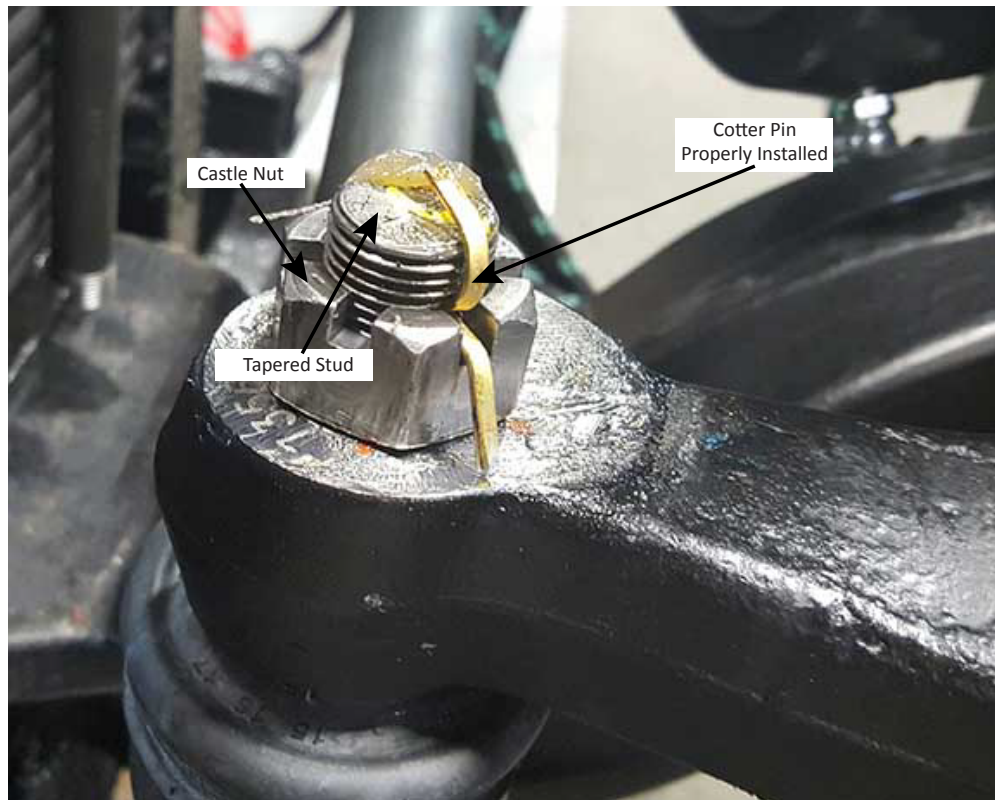

Figure 6
3. Un-screw the castle nut by rotating it counter-clockwise until the castle nut turns freely. Using hand force only, check for any movement of the tapered stud within the steering arm/pitman arm. Inspect each tapered stud (See Figure 6). If there are any signs wear or fretting on the contact surface between the castle nut and the steering arm/pitman arm, or if there are any signs of loose fit or movement or rotation within the steering arm or pitman arm, or if the nut will not tighten to the specified torque (See Torque Chart on page 8), call Autocar technical support at 888-218-3611.
5. Install a new cotter pin through the hole and bend one leg toward the back of the castle nut and the other up around the end of the threaded fastener (See Figure 6).